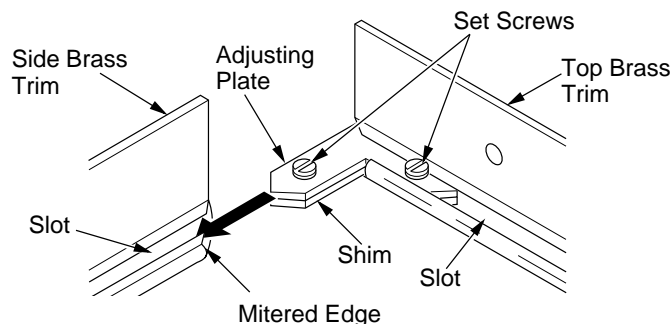

Figure 38 - Assembling Brass Trim
3. Align shim under adjusting plate as shown in Figure 38, page 21.
4. Slide one end of adjusting plate/shim in slot on mitered edge of top brass trim (see Figure 38, page 21).
5. Slide other end of adjusting plate/shim in slot on mitered edge of side brass trim (see Figure 38, page 21).